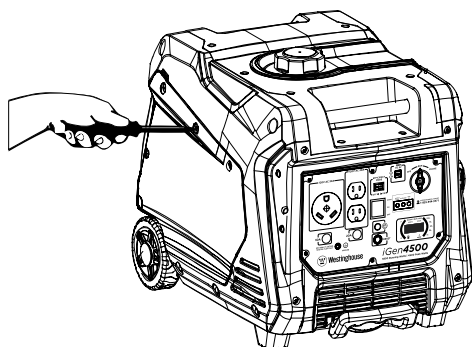

Figure 11: Remove engine service panel
2. Remove the Engine Service Panel to gain access to the air filter (see Figure 11).
1. Remove the Engine Service Panel to access the carburetor (see Figure 11 in *Air Filter Maintenance*).